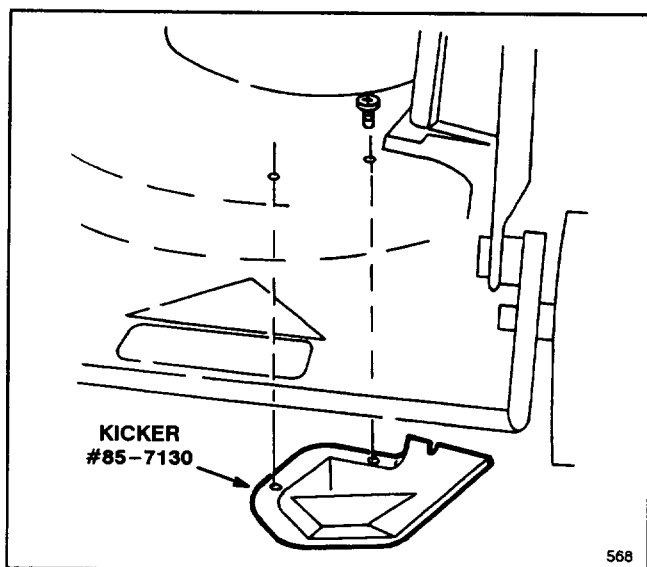

Figure 15
6. Position kicker #85-7130 as shown in Figure 15. Repeat step 3 to secure kicker to deck.